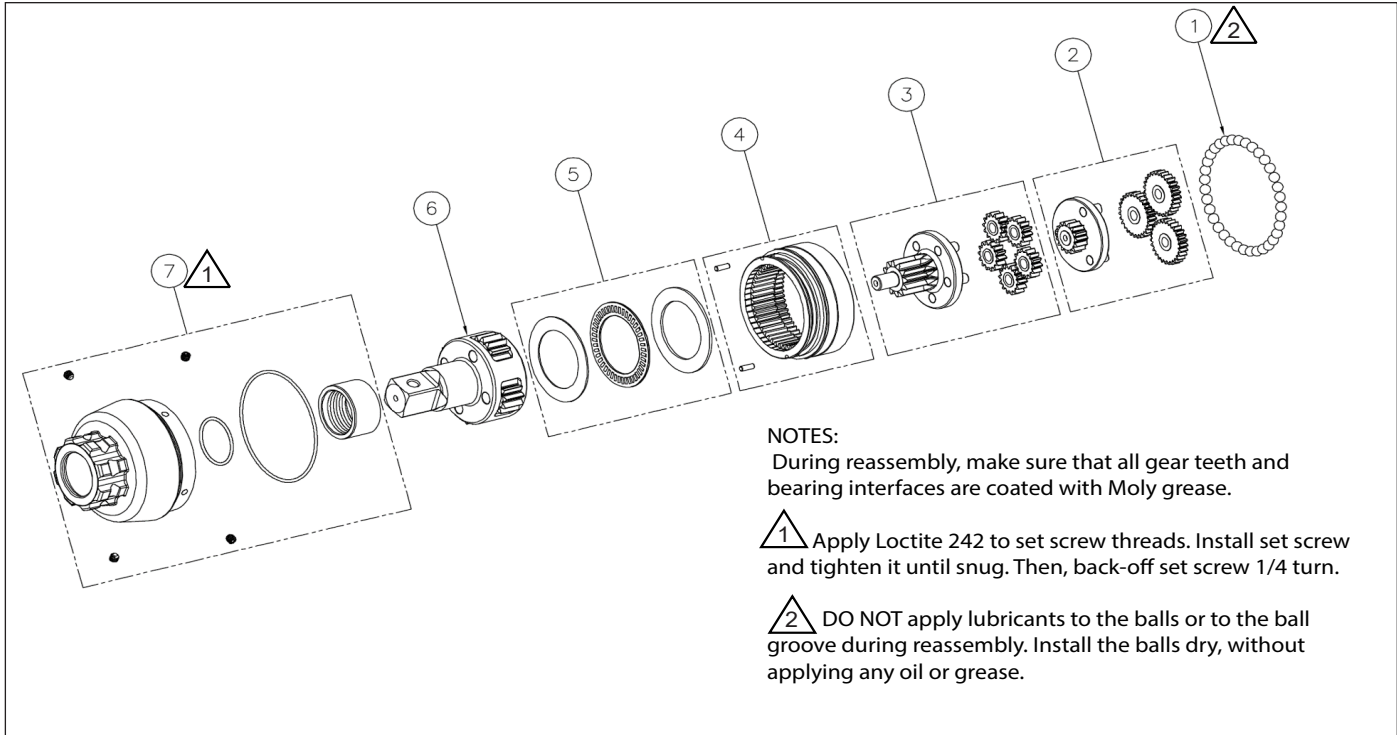

Figure 9: TW500SR Gearbox Assembly
9.3.1 Table of Parts (Figure 9)